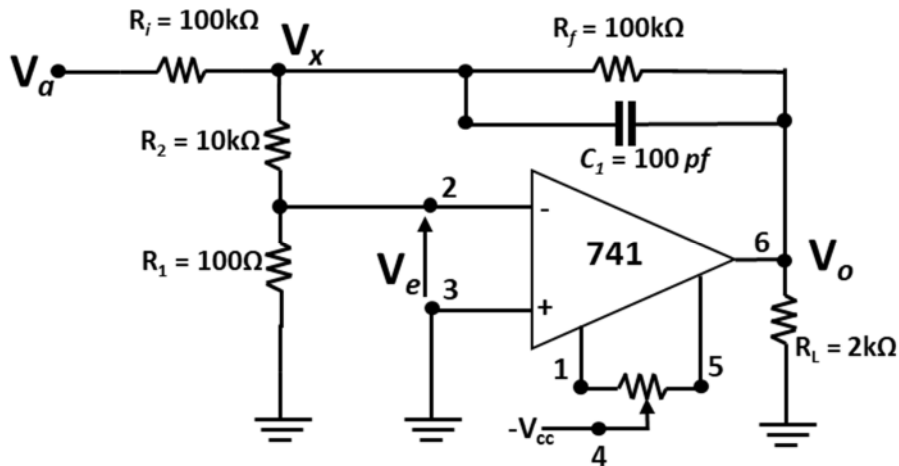

Figure 5: Open-Loop Gain Measurement
- d) Construct the circuit depicted in *Figure 5*. Before connecting the function generator to the input, grounded the input V_a and conduct zero reference adjustment in oscilloscope. Adjust the offset potentiometer so that the measured dc value @ V_e is zero. To start testing, apply a 20Hz, $2V_p$ sinusoidal source voltage V_{in} to the input V_a and measure the **ac** voltage @ V_x and V_o .